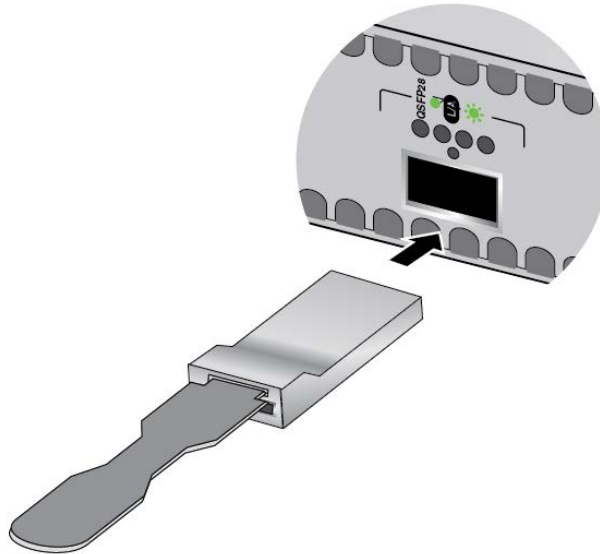

Figure 121. Installing 100Gbps QSFP28 Transceivers in the AT-XEM2-1CQ Line Card
- ❑ 100Gbps QSFP28 transceivers in the AT-XEM2-1CQ Line Card: refer to Figure 121.